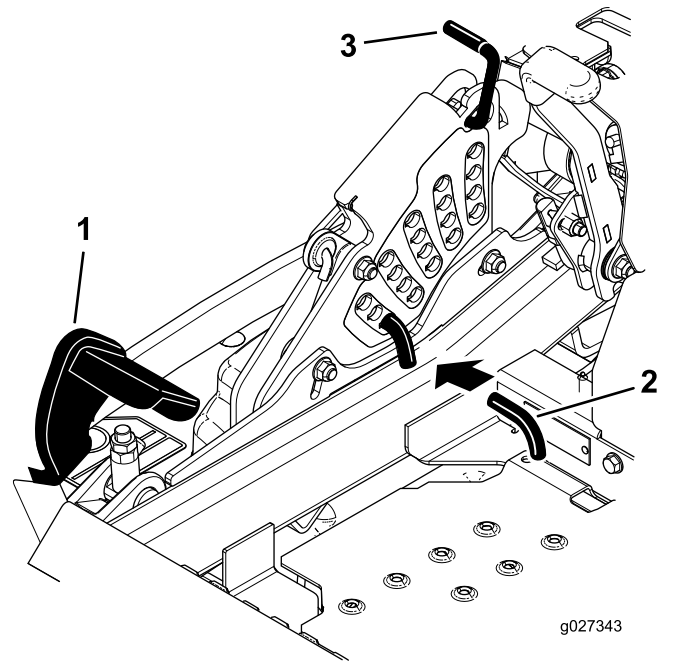

Figure 106
5. Push the deck-lift pedal all the way forward and the deck latches at the 14 cm (5-1/2 inches) transport position (Figure 106).